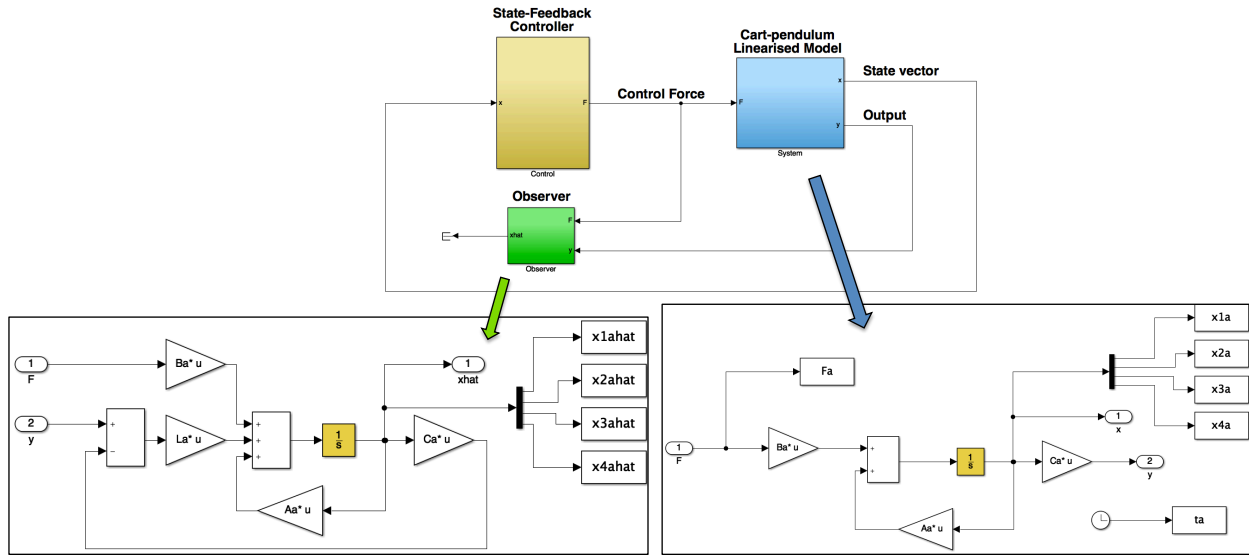

Figure 2: Linearised control system.
- Use the Simulink model of the linearised system in closed loop with the state-feedback controller created in Lab 05 (CP\_SFC\_Lin\_a\_yourstudentnumber.slx) and add the observer. Save your model as CP\_Obs\_Lin\_a\_yourstudentnumber.slx. An example of the Simulink model is shown in Figure 2. Notice that the block diagram of the linearised model is an alternative to the block `State-Space` used in Lab 05).